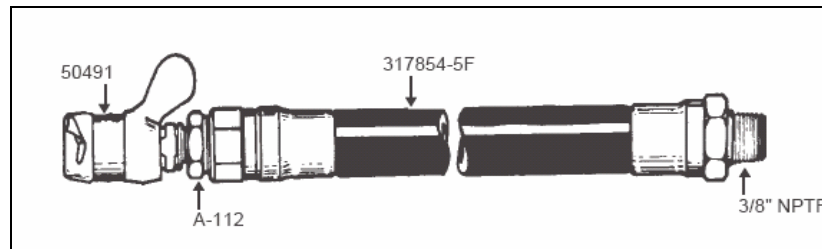

Figure 6: Hose and Coupling Assembly (for Model 7149-D4)
3. Assemble hose 317854-5F, bushing A-112 and coupling assembly 50491 (**Figure 6**). Screw hose and coupling assembly into check valve 317210 and tighten.